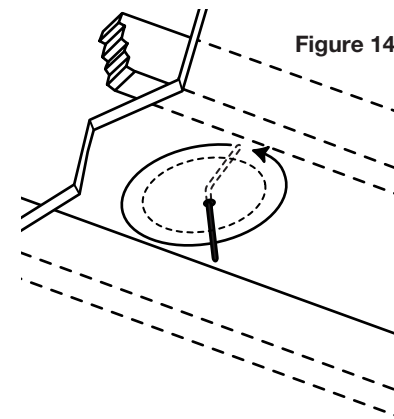

Figure 14
3. Cut a foot-long piece of coat hanger. Bend the wire (creating a right angle) leaving 3-1/8" at one end for the CM5PR and 4/3/4" for the CM6PR (this allows for the extra width of the mounting dogs). Poke the "L-shaped" wire into the pilot hole and turn it in a complete circle and move it into the ceiling cavity to make sure you have approximately 3-3/4" of depth. If the wires movement is obstructed by anything, fill the hole(s) with spackle and try another location. (See Figure 14)